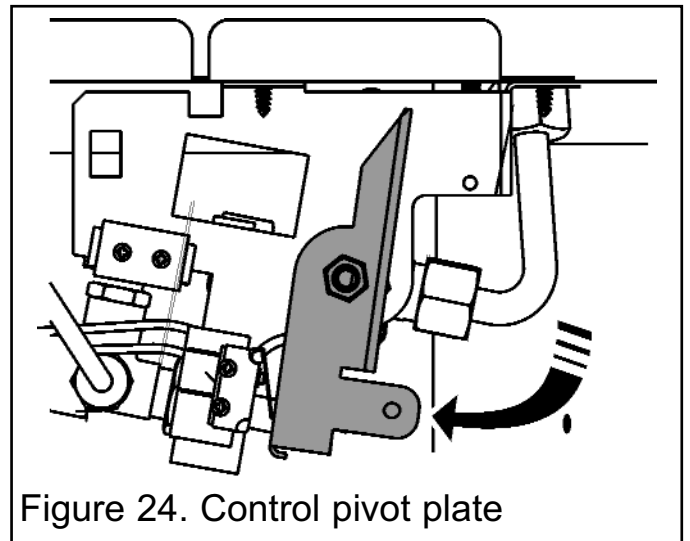

Figure 24. Control pivot plate
2. Rotate the control pivot bracket clockwise as far as it will go and hold in this position (See figure 24). This should close the ignition circuit and simultaneously open the gas tap allowing the gas to flow to the pilot. Wait a few seconds while the air is purged. The electronically generated sparks should light the pilot. The pilot should then light the main burner at its low setting. There may be a delay of up to four seconds between the pilot lighting and ignition of the gas at the main burner. This is normal and is due to the time required to fill the main burner compartment with sufficient gas for ignition.